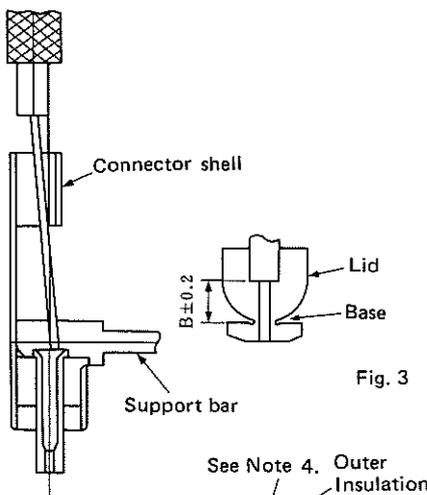

Fig. 3
- (1) Pass the cable center conductor through the connector shell, as shown in Figure 3. Then insert the center conductor into the hole in the male terminal while making sure that the connector shell passes between the outer conductor and the cable insulation. Insertion will be completed when the cable insulation reaches the section of dimension "B" specified in the table below. Note 4: The end of the outer conductor must be uniform with respect to the connector shell. Note 5: After insertion, there must be a clearance of about 2 mm between the cable center conductor and the end face of the male terminal.